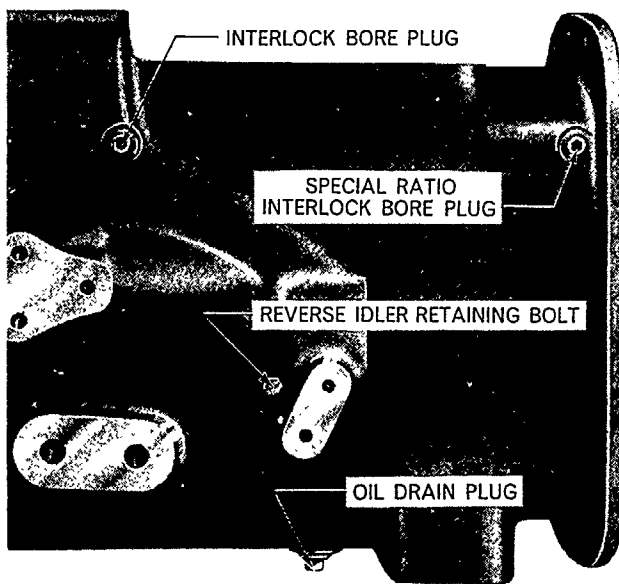

Figure 43
4. If necessary remove the threaded plug from the left-hand side of the transmission case, Figure 43, and remove the two interlock plungers from the bore.
1. Unscrew the reverse idler shaft retaining bolt situated on the outside of the transmission case, Figure 43. Push the idler shaft forwards and remove the 4th/8th shift fork.
3. Secure the shaft with the locking bolt and rubber-coated sealing washer located in the left-hand side of the transmission case, Figure 43.
1. If necessary, install the two interlock plungers in the bore from the left-hand side of the transmission case and replace the threaded plug, Figure 43.